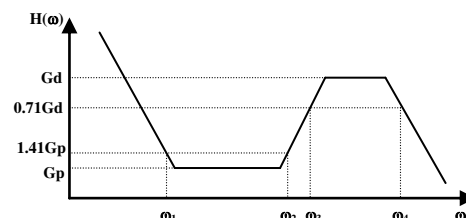

Figure 11. Transfer Function of the Compensation Network
The transfer function of the compensation network, defined as  $H(\omega) = VTEC(\omega) / TEMPSET(\omega)$ , is shown in Figure 11.
- d.  $C_D \cdot R_I$  determines the corner frequency,  $\omega_2 = 1/(C_D \cdot R_I)$ , where the differential component starts picking up (see Figure 11), as the frequency goes up.